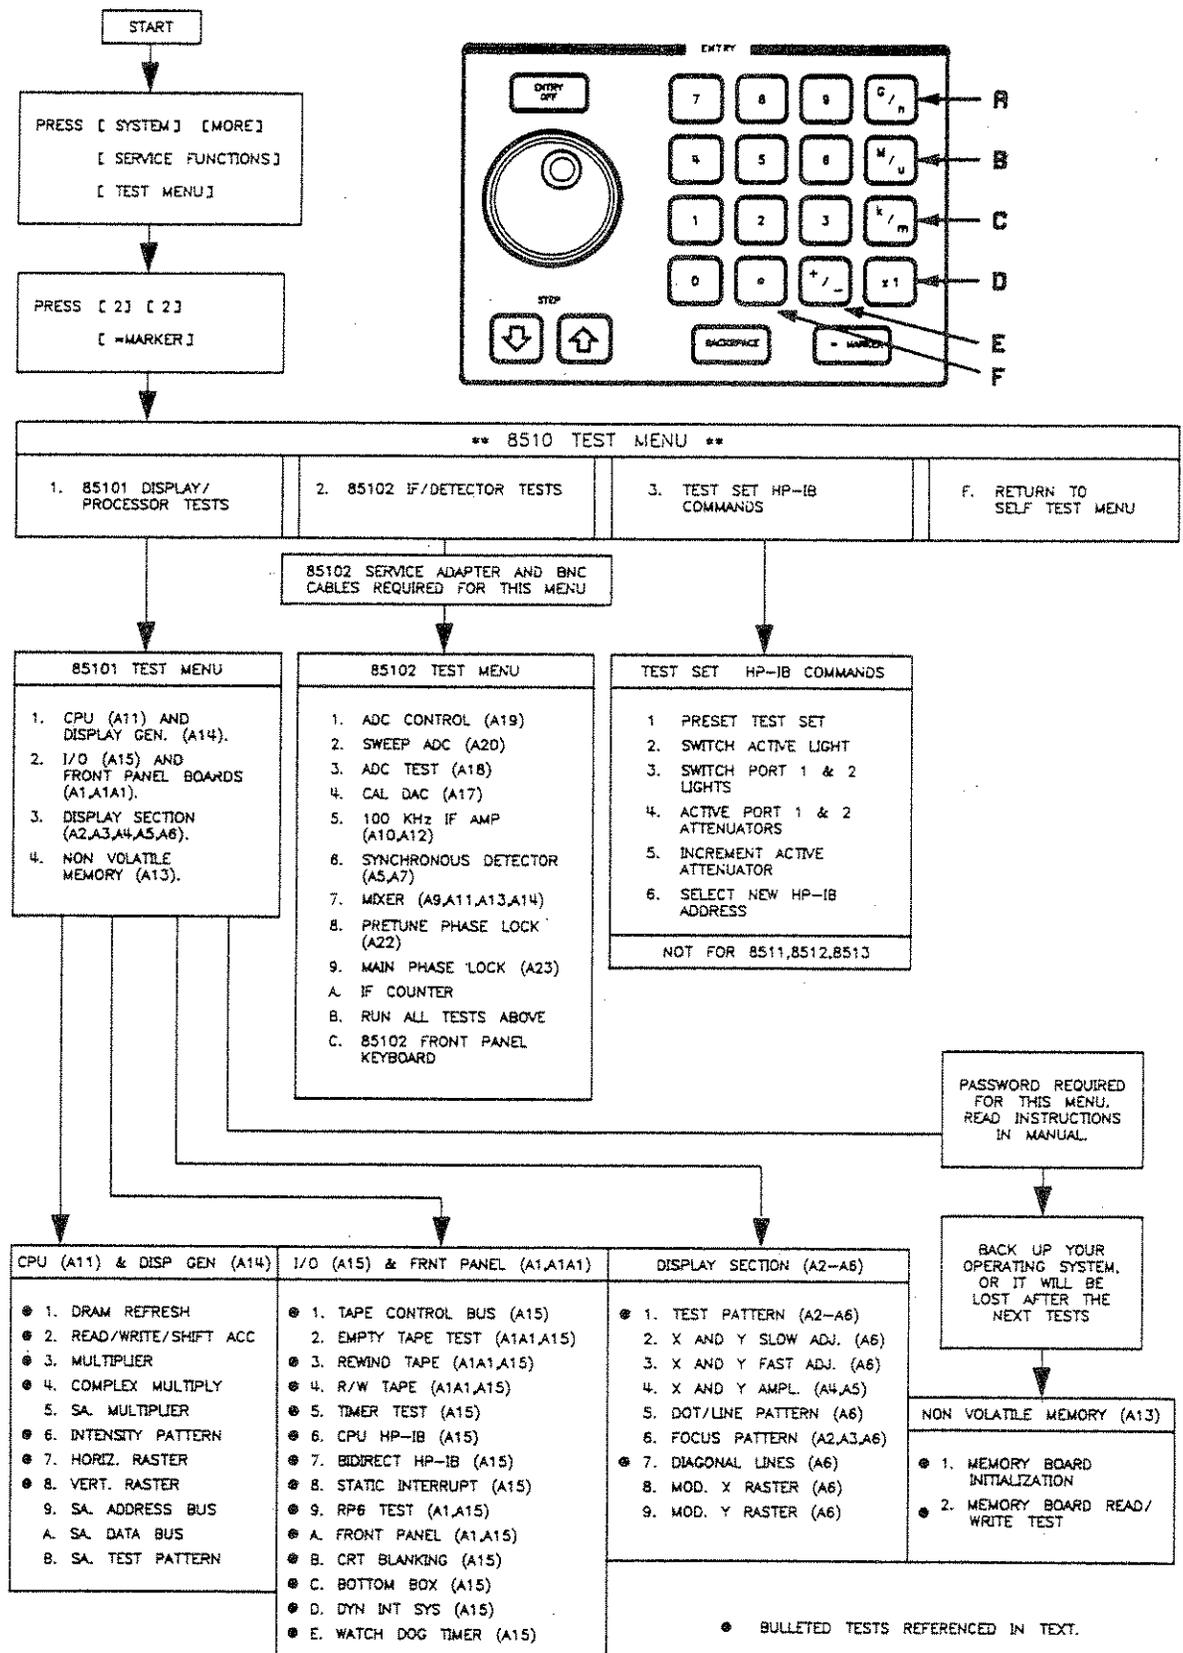

Figure 4-8. Overall Service Program Flowchart
**Overall Service Program Flowchart.** Figure 4-8 illustrates the overall Service Program flowchart including HP 8510 key presses to access *all* the tests included in this diagnostic.